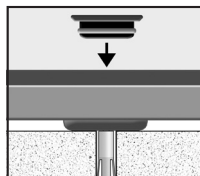

Figure 8
8. Replace the Mounting Hole Cap and press firmly into place (Figure 8).